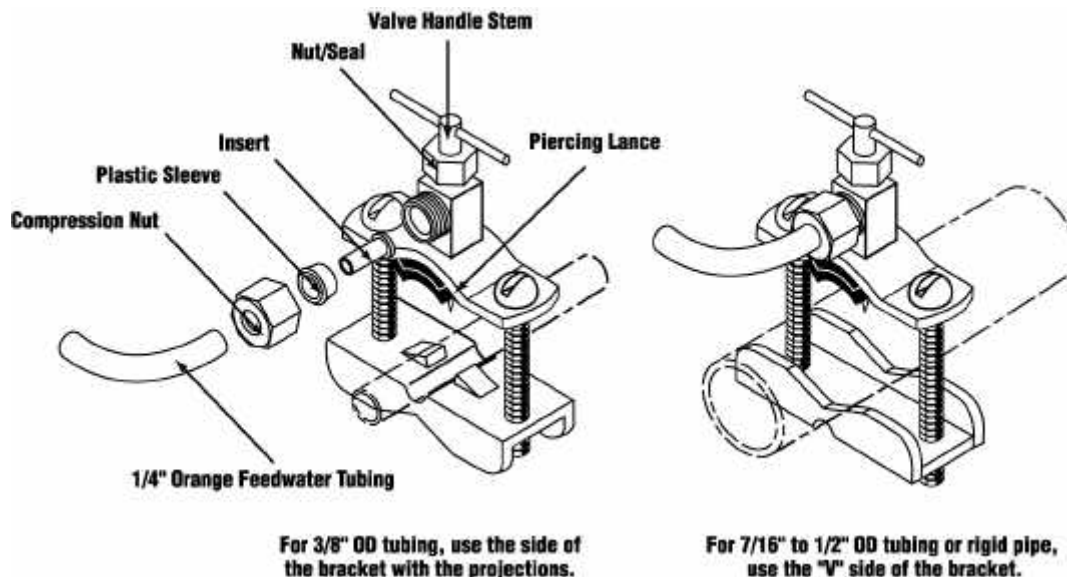

Fig. 3
- 2) Before installing the feed water tapping valve, make sure that the piercing lance does not protrude beyond the rubber gasket. (See Fig. 3)
- 4) For 3/8" OD tubing, use the side of the bracket with the projections to prevent distortion of the tubing. Use the "V" side of bracket for all larger size tubing. Tighten the screws evenly and firmly. The brackets should be parallel. Do not deform the tubing. (See Fig. 3)
- 7) Connect one end of the orange tubing to the feedwater tapping valve using the brass compression nut, insert in plastic sleeve. (See Fig. 3)
- 3) Turn the feedwater tapping valve handle clockwise to expose the piercing lance beyond the rubber gasket no more than 3/16". (See Fig. 3)
- 7) Connect one end of the orange tubing to the feedwater tapping valve using the brass compression nut, insert, and plastic sleeve. (See Fig. 3)